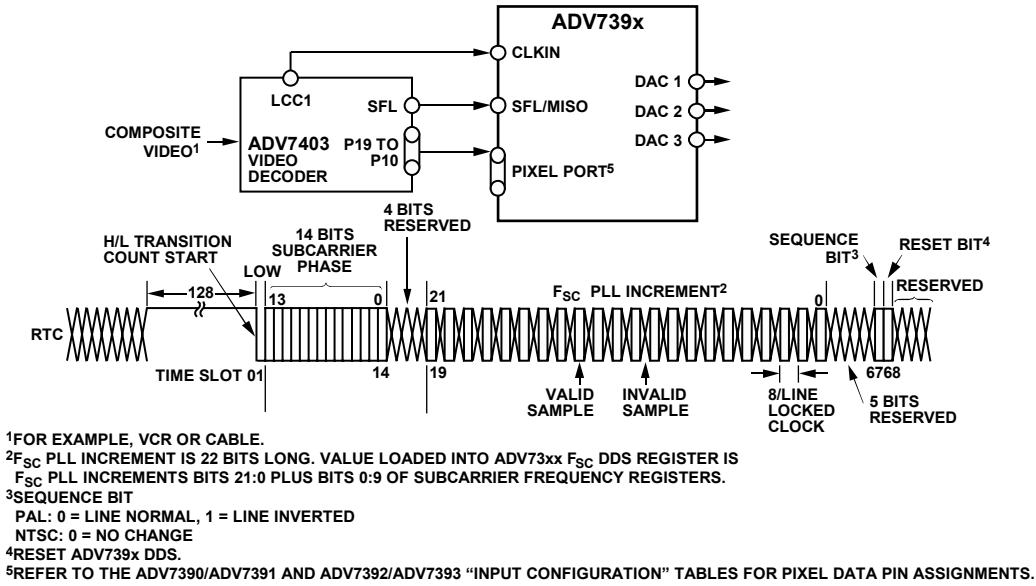

Figure 64. SD Subcarrier Frequency Lock Timing and Connections Diagram (Subaddress 0x84, Bits [2:1] = 11)
- In subcarrier frequency lock (SFL) mode (Subaddress 0x84, Bits[2:1] = 11), the ADV739x can be used to lock to an external video source. The SFL mode allows the ADV739x to automatically alter the subcarrier frequency to compensate for line length variations. When the part is connected to a device such as an ADV7403 video decoder that outputs a digital data stream in the SFL format, the part automatically changes to the compensated subcarrier frequency on a line-by-line basis (see Figure 64). This digital data stream is 67 bits wide and the subcarrier is contained in Bit 0 to Bit 21. Each bit is two clock cycles long.